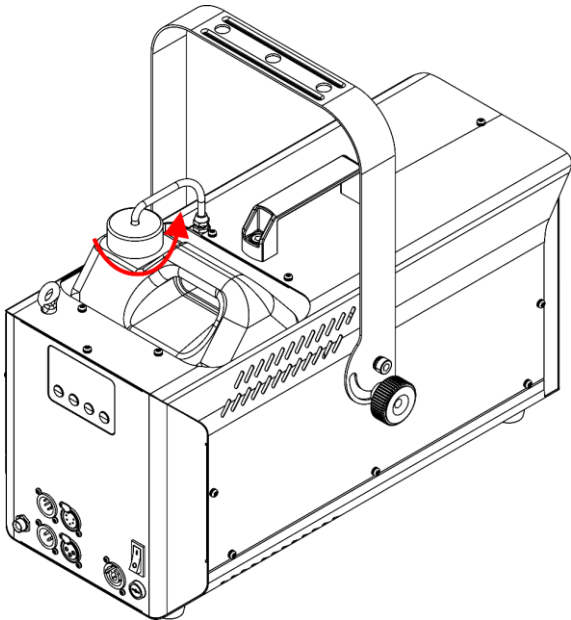

Fig. 14
- 02) Unscrew the lid on the fluid tank, as shown in Fig. 14.